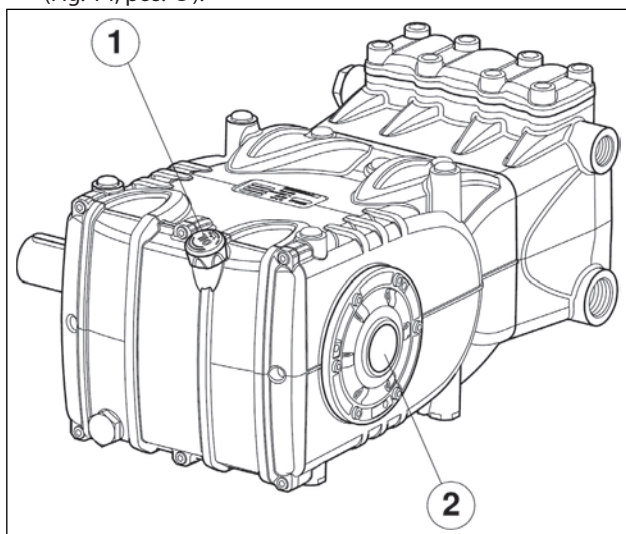

Fig. 14
5. Oil in the pump casing is at level, verified with a dipstick (Fig. 14, pos. ①) and exceptionally with a level indicator (Fig. 14, pos. ②).